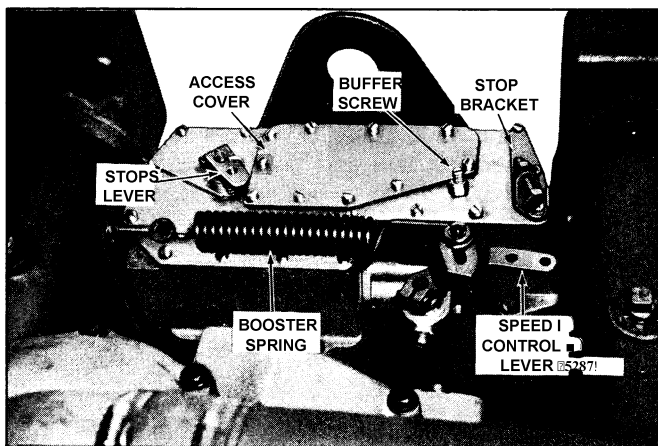

Fig. 1 - Governor Mounting
The variable speed mechanical governor (Fig. 1) performs the following three functions:
2. Disconnect the speed control rod from the speed control lever and disconnect the booster spring from the speed control lever (Fig. 1).